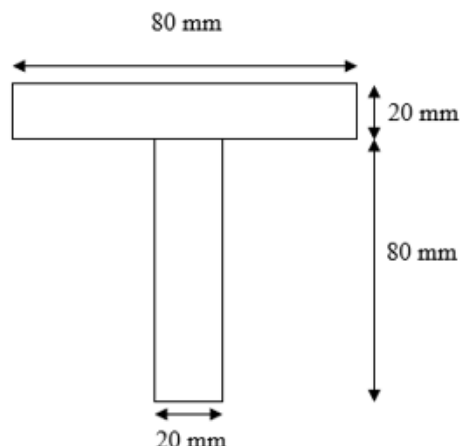

Figure 3(b) / Rajah 3(b)
- (b) Figure 3(b) shows the cross-sectional area of the simply supported beam.